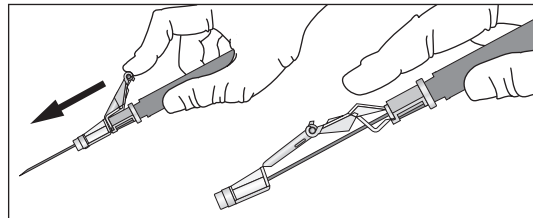

Figure 17
- Immediately activate needle protection device upon withdrawal from patient. For greatest safety, use a one-handed technique and activate away from self and others (refer to Figure 17).